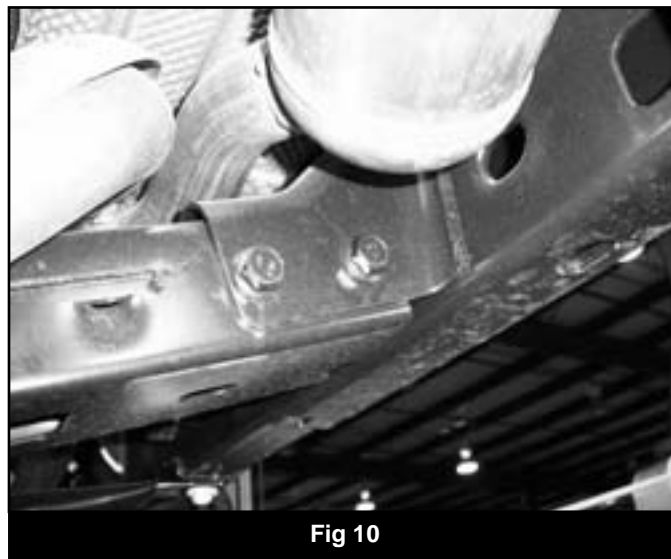

Fig 10
24. Remove the outer transmission crossmember mounting bolt on each end of the crossmember (Fig 10). Retain the mounting hardware.